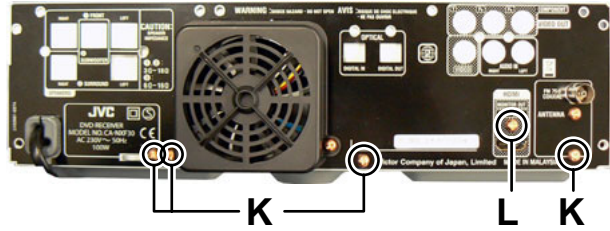

Fig.14
3.1.6 Removing the Rear panel (See Fig.14)
- (1) Remove the three screws **H** attaching the spindle motor from spindle motor board.
3.2.5 Removing the tray assembly (See Fig.14 & 15)
- (1) Remove the two screws **J** attaching the clamper base. (See Fig.14)
- (2) Remove the one screw **K** attaching the shaft guide from bottom side. (See Fig.14)